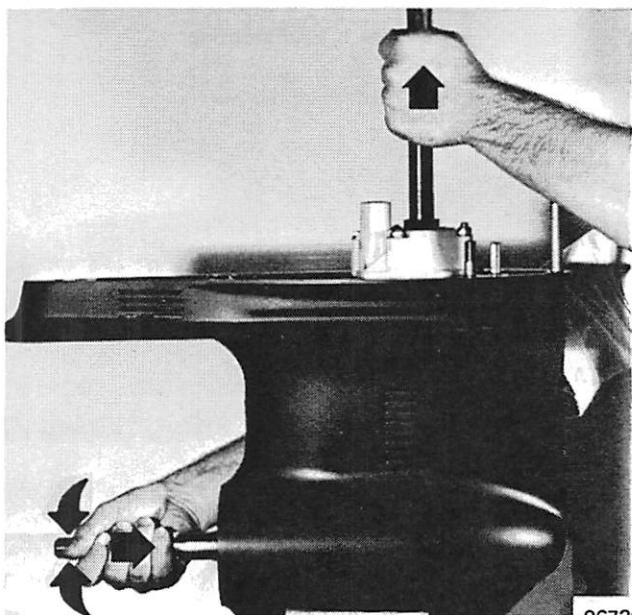

Figure 3. Checking Gear Lash
4. At this time, lash between gears should be checked for future reference. (Figure 3) Pull on drive shaft with one hand and push on propeller shaft with other. Refer to backlash later in "Reassembly". Bend tab on tab washer.